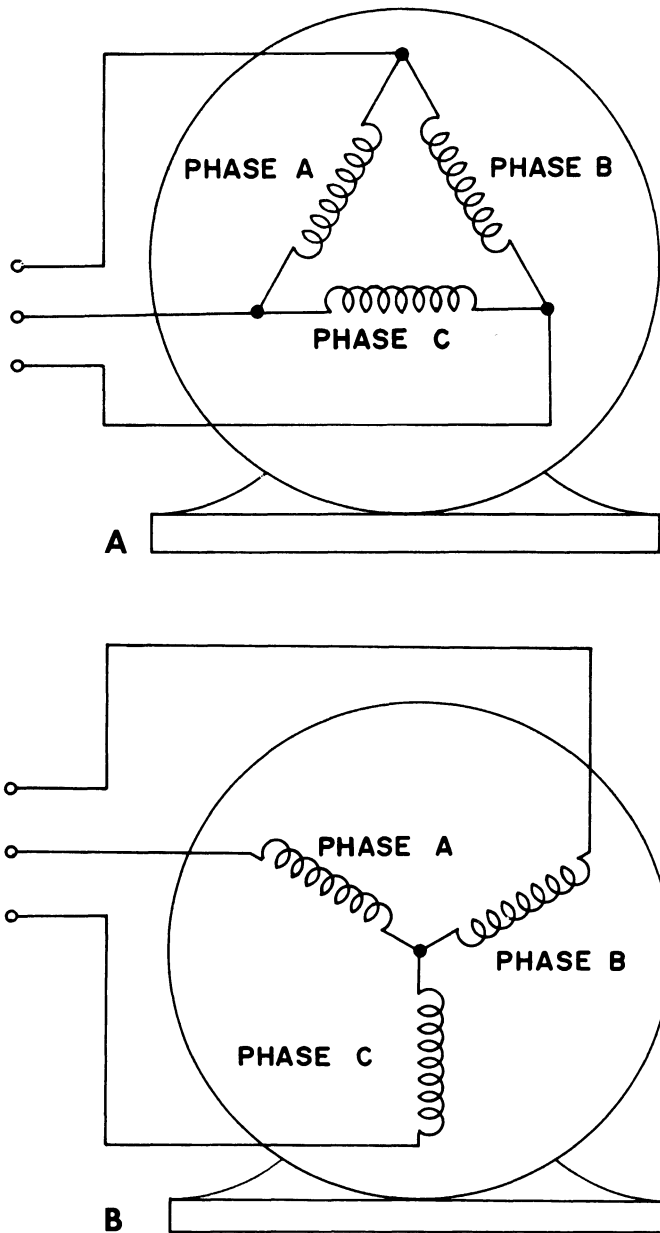

FIGURE 8.—Diagrams of three-phase motor electrical connections. A, Delta (Δ); B, Wye (Y).
Three-phase motors may be made for either a wye (Y) or delta (Δ) connection (fig. 8). For balanced phase voltages, both types have similar performance. An important consideration in the application of either type is that the proper connections be made to the motor windings.